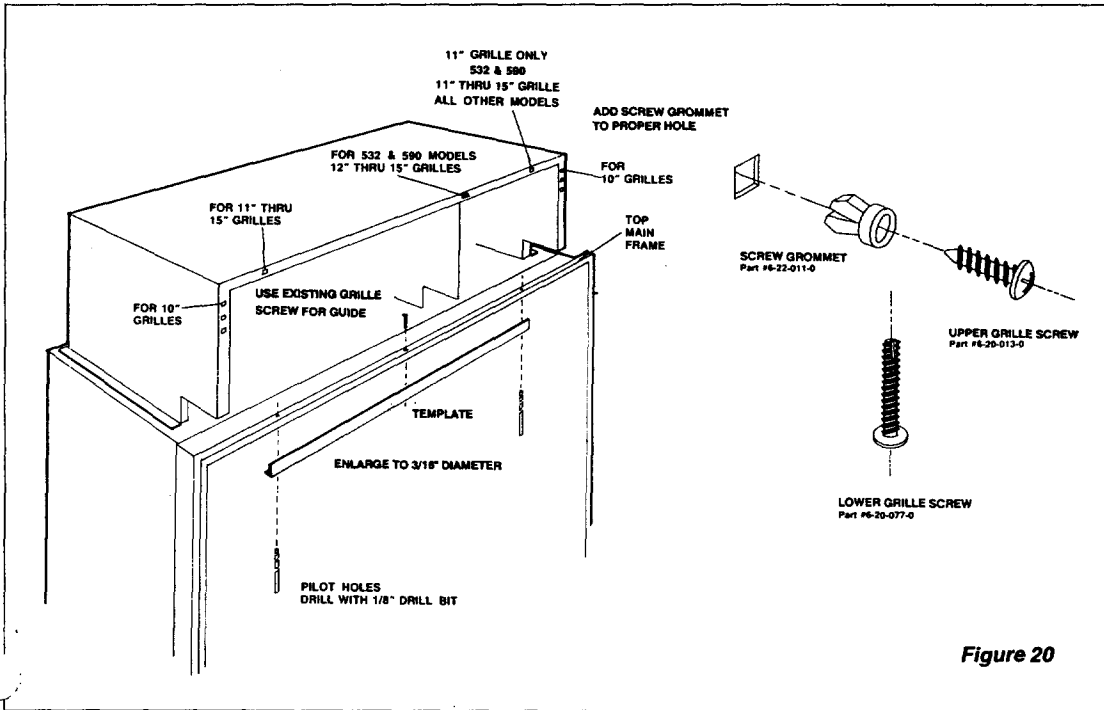

Figure 20
**B)** Open the door(s) and attach template provided with panel grille installation kit. The template center hold must be aligned with the grille screw hole and you must fasten from the top down with the screw you removed in step A. See Figure 20.
**C)** With template in place, drill 1/8" pilot holes in the end holes of the template. See Figure 20. Enlarge pilot holes by drilling 3/16" finished holes. After drilling holes, remove template and discard. Keep screw for later installation.
**D)** Install screw grommets in properly labeled holes in Figure 20 in the shroud assembly.
**E)** Attach the outer grille frame to the shroud assembly by inserting the two upper grille screws into their proper holes and with door(s) open install the lower three grille screws as shown in Figure 20 and Figure 10.